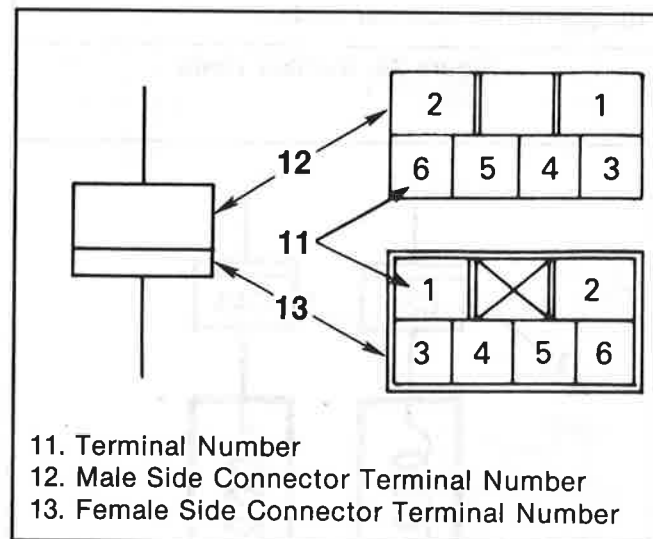

Figure 31. Connector Terminal Number
Connector, diode, and relay terminal numbers (11) are clearly shown (figure 31).